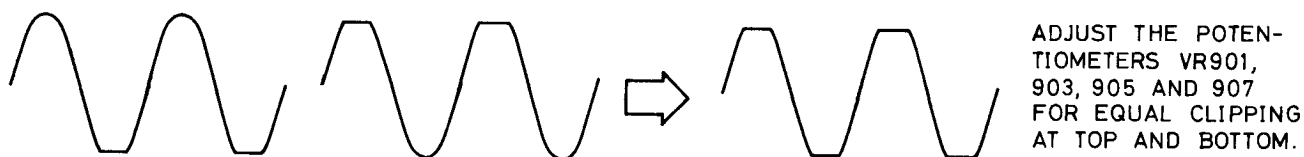

Figure 1. DC BALANCE WAVEFORMS
4. Connect power cord and rotate Volume Control fully clockwise. Adjust generator output until sine wave on oscilloscope just starts clipping. (See Figure 1)